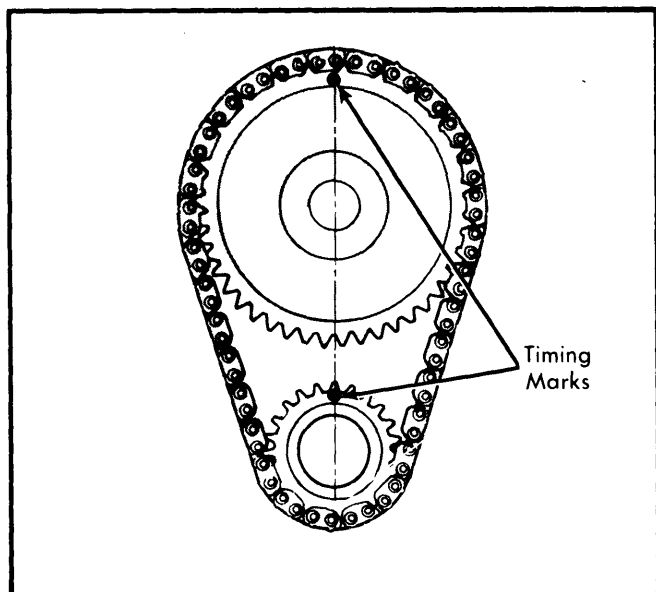

Fig. 5 Timing Chain Sprocket Alignment
**Removal** — Remove timing chain cover, fuel pump eccentric and bushing. Remove timing chain cover oil seal. Align timing chain marks to simplify reassembly. See Fig. 5. Slide timing chain and sprockets off crankshaft and camshaft at the same time.